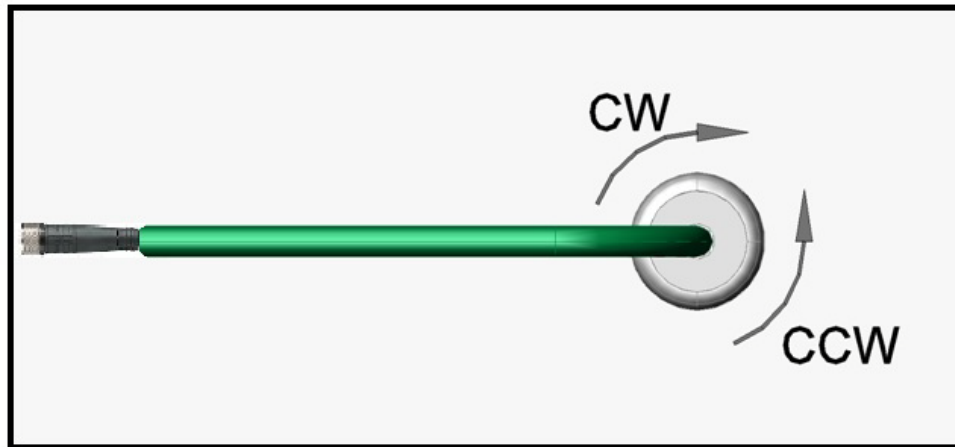

FIGURE 19 - MOTOR ROTATION DIRECTION CONVENTION
The *ConveyLinx-Ai2* module uses a Clock-Wise (CW) and Counter Clock-Wise (CCW) motor rotation definition. The reference for this distinction is based upon viewing the MDR from the cable exit end of the roller as depicted below in Figure 19.